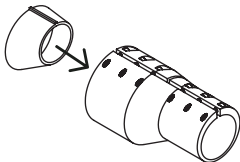

Figure 1
2. Place **Coupler Insert** into **Coupler**. Align locating tab of insert in the slot of the Coupler. *See Figure 1*